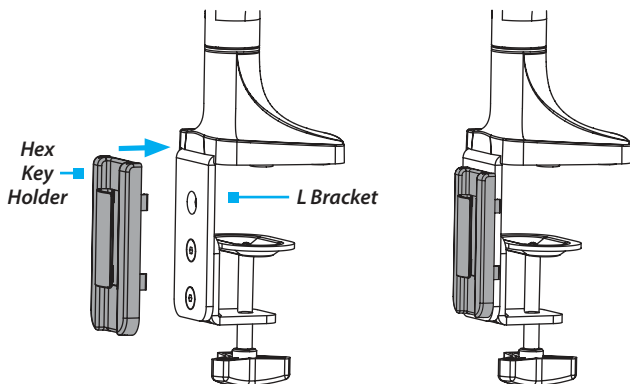

Figure 5
6. Snap the **Hex Key Holder** (11) onto the **L Bracket**. (Figure 5)